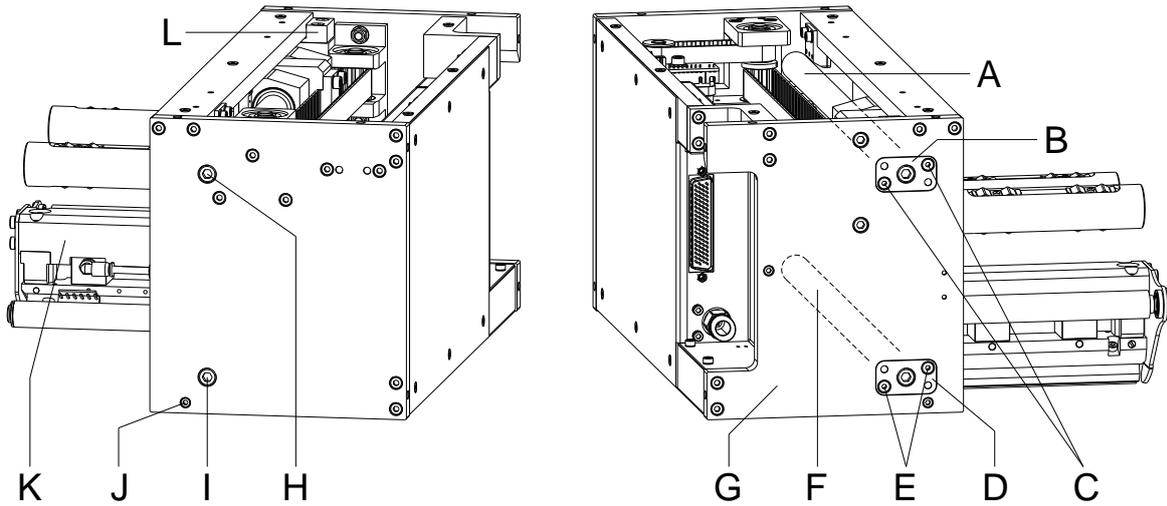

Figure 39
5. Unscrew the two screws (E, Figure 39).
6. Unscrew the screw (I, Figure 39).
7. Hold the print carriage (K, Figure 39) and pull the guiding shaft below (F, Figure 39) with the flange (D, Figure 39) from the hole in the side panel (G, Figure 39) and remove them.
8. Unscrew the screw (O, Figure 39).
9. Unscrew the screw (S).
10. Loosen the screw (R) by approx. half a turn.
11. Carefully swivel the angle for the chain (Q) backwards.
12. Pull the linear bearing (N) from the fixing pins and remove it.
6. Guide the guiding shaft below (F, Figure 39) with the flange (D, Figure 39) through the holes in the side panel (G, Figure 39). Push the guiding shaft through the linear bearing (N, Figure 39). Hold the print carriage (K, Figure 39) while this procedure.
7. Tighten the screws (I, Figure 39).
8. Tighten the two screws (E, Figure 39).
Move the print carriage over the complete travel and ensure a smooth running. If necessary, adjust above the screw (I, Figure 39) the respective guiding shaft.
11. Fasten the bottom cover with three countersunk screws and two cylinder screws (J, Figure 39).